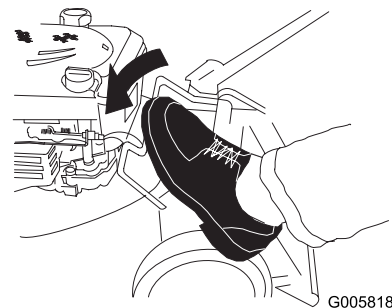

Figure 27
2. Step on the handle release lever (Figure 27).